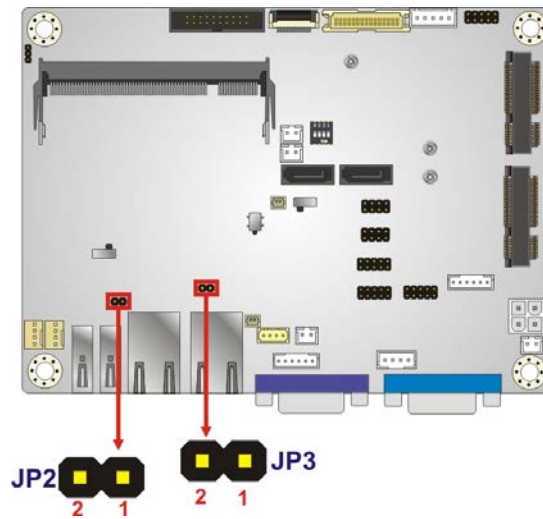

Figure 3-14: LAN LED Connector Location
- CN Location:** See Figure 3-14